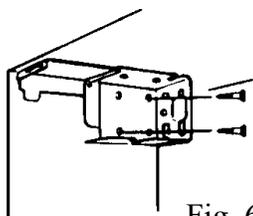

Fig. 6
- Typical installations for inside mounts are to the jamb (fig. 6) or the soffit (fig. 8) of the window frame. The screws should be diagonally located.